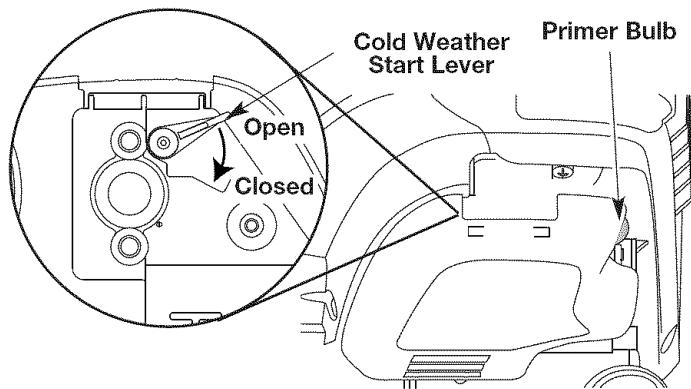

Fig. 7
**NOTE:** There is no need to turn the unit on. The On/Off Stop Control is in the ON (I) position at all times.
- 3. Fully press and release the primer bulb 10 times, slowly. Some amount of fuel should be visible in the primer bulb and fuel lines (Fig. 7). If you can't see fuel in the bulb, press and release the bulb as many times as it takes before you can see fuel in it.
**IF UNIT IS BELOW 40°F...** Push the Cold Weather Start Lever (Fig. 7) down to the start/closed position and continue to step 4. DO NOT push this lever down if the unit temperature is above 40°F.